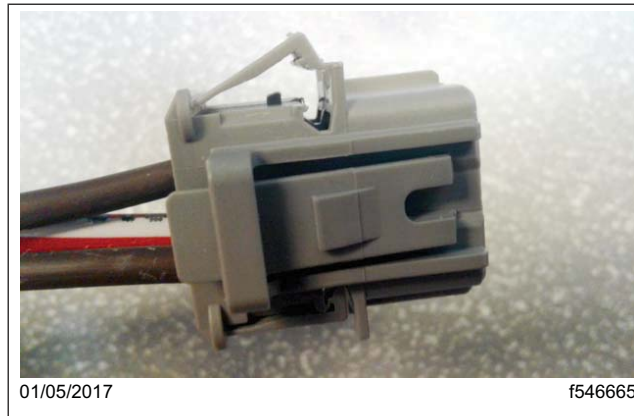

Fig. 3, 55B Terminal Lock (released or unsnapped)
5. Unsnap the terminal lock from the only populated connector (55B) on harness A06-93000-000. See Fig. 3.